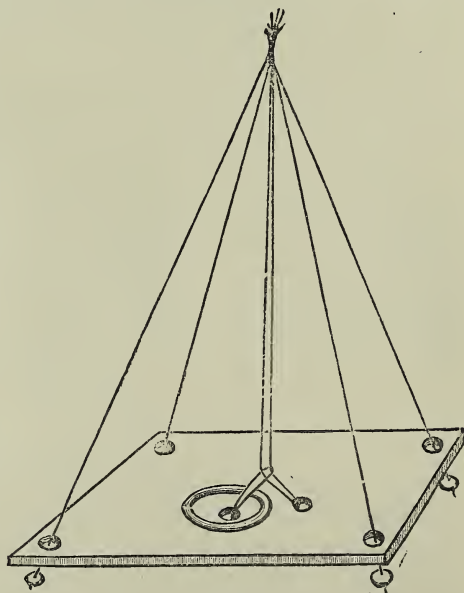

Fig. 1.
(1) *The Balance Puzzle*.—Cut a piece of cardboard four inches square. In the middle punch two holes, and punch a hole also in each corner. Take four pieces of thread eight inches long and knot the ends together; then pass one thread through each corner hole of the card and fasten them there by tying a bead to each. Now take another piece of thread eighteen inches long and double it in the middle, then pass the loop down through one of the holes in the middle of the card and up through the other hole, and pass the loop through a small ring. Next pass the ends of the thread through the loop and draw it tight, and fasten the ends to the knot joining the four other threads (Fig. 1). The puzzle is to get the ring off the threads without cutting them.